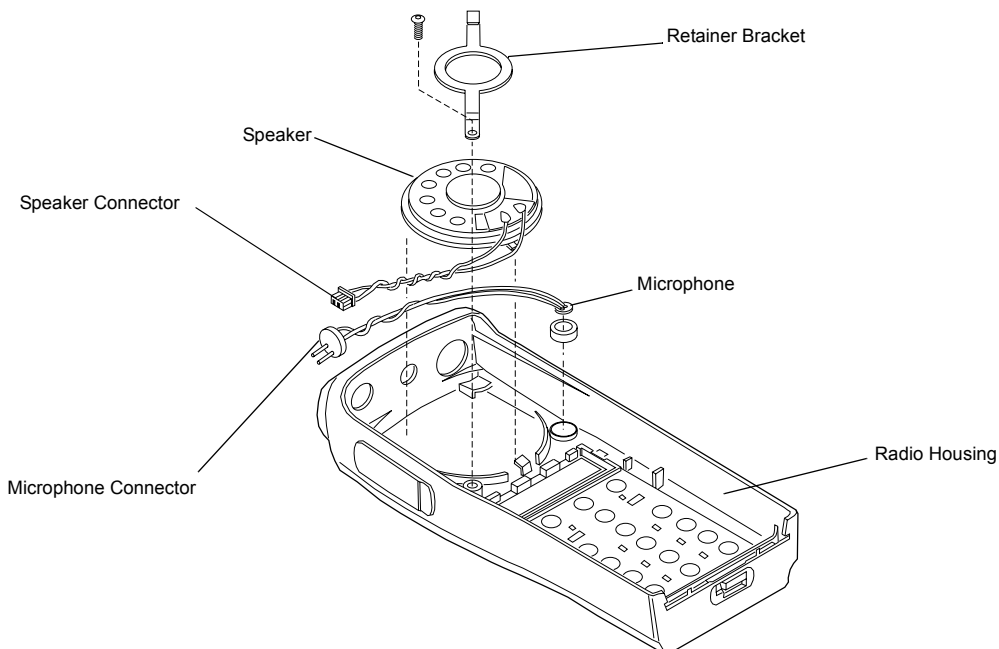

Figure 7-7. Removal Speaker-Microphone Assembly
1. Remove the screw from the speaker retainer using a T6 Torx screwdriver (Figure 7-7).